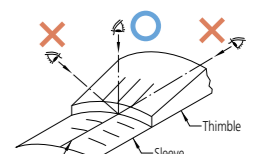

Fig. 4
2. Read the graduations seen directly from above to avoid parallax error. (Fig. 4)